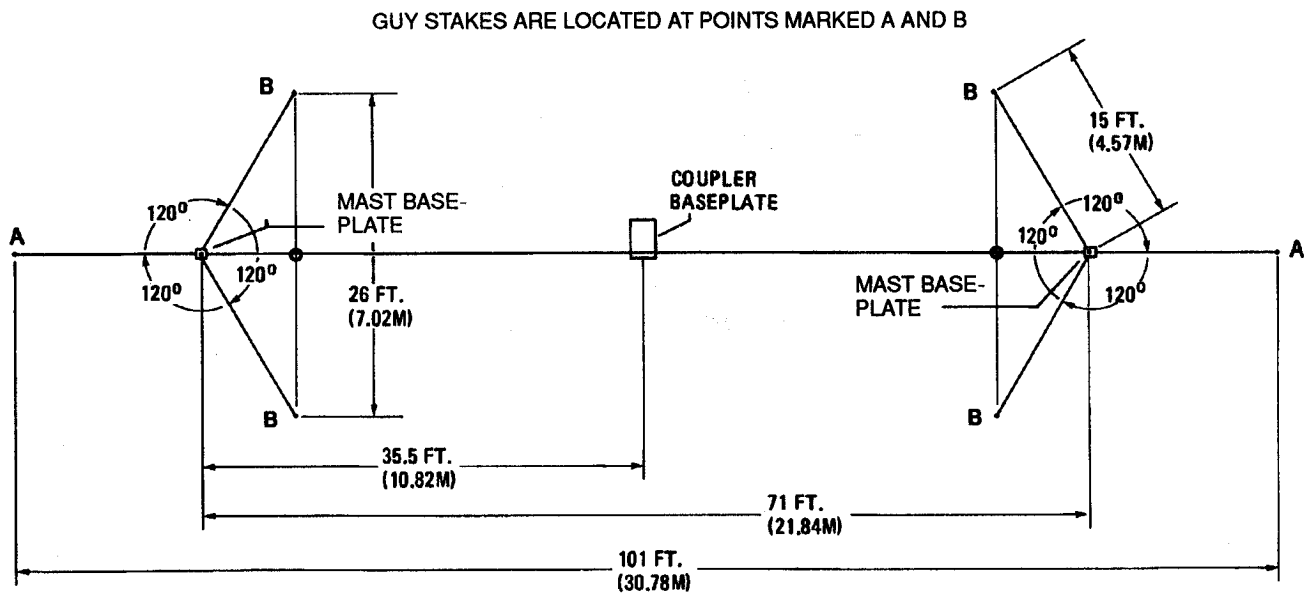

Figure 2-1. RF-1912 Installation Planning Diagram
Generally, the higher the antenna with respect to the surrounding countryside, the better its performance will be. If possible, the broadside of your antenna should face the station(s) with which you will be communicating. The RF-1912 is provided with rope guys and metal stakes for temporary ground installations. Plan installation using dimensions, baseplate, stake locations, and Site Template Assembly shown in figure 2-1.
For rolling or uneven terrain, the dimensions in figure 2-1 may need to be adjusted for proper installation.
To reduce assembly time, sort parts and set them on the ground near where they will be used. Guy rope assemblies have been color coded (refer to table 2-15), grouped into functional sets, and wound onto color coded cable winders which are stowed in individual canvas bags (one guy set per bag). The dipole assembly has been similarly color coded and wound onto two cable winders (one for each half) which are folded over the center insulator/feedline assembly and stowed in one canvas bag. Note that there are six long stakes to be used at points marked "A" and "B" in figure 2-1 where the site template/guy ropes are to be attached. There are four shorter stakes to be driven through holes in mast baseplates (two in each baseplate), to hold masts securely. Use any necessary tools listed in table 2-14 and perform the following procedure to install the antenna:
- a. Unstow and unwind the Site Template Assembly (on black winder in black canvas bag). Attach one end of the template to a guy stake (6906-0250) and drive into the ground at point "A". The top of the stake should tilt away from its respective mast baseplate (see detail B in figure 2-2). Extend the template completely until all sections are straight, without any knots or kinks. Attach the other end of the template to a second guy stake. Pull the center rope to remove all slack, then drive the second guy stake at the other point "A", again tilting the stake back. These two stakes are for the Primary Guy Assemblies. The extended template should look like figure 2-1.
- b. See figure 2-1 and attach a guy stake to the four "quick-links" located at point "B". Keeping all ropes straight, drive in the stakes at point "B", again tilting the stakes away from their respective mast baseplates. These four stakes are for the Secondary Guy Assemblies.
- d. See figure 2-1 and position the two mast baseplates at the indicated point, under the template. Turn mast socket of each baseplate so that its setscrew is facing up, and the mast socket opening faces the other mast baseplate. See detail A in figure 2-2.
- f. See figure 2-1 and position the coupler baseplate and related items at the center of the antenna site. An aluminum ferrule on the template marks this location.